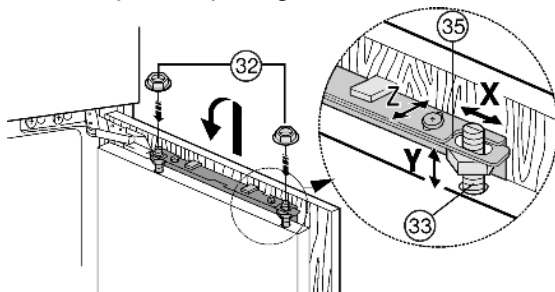

Fig. 27
- ▶ Attach the unit door on the adjusting bolts *Fig. 27 (33)* and loosely screw the locknuts *Fig. 27 (32)* onto the adjusting bolts.
- ▶ To align the unit door in the Y direction (height) and in lateral inclination: Adjust the adjusting bolts *Fig. 27 (33)* with a screwdriver.
- ▶ Tighten the locknuts *Fig. 27 (32)*.